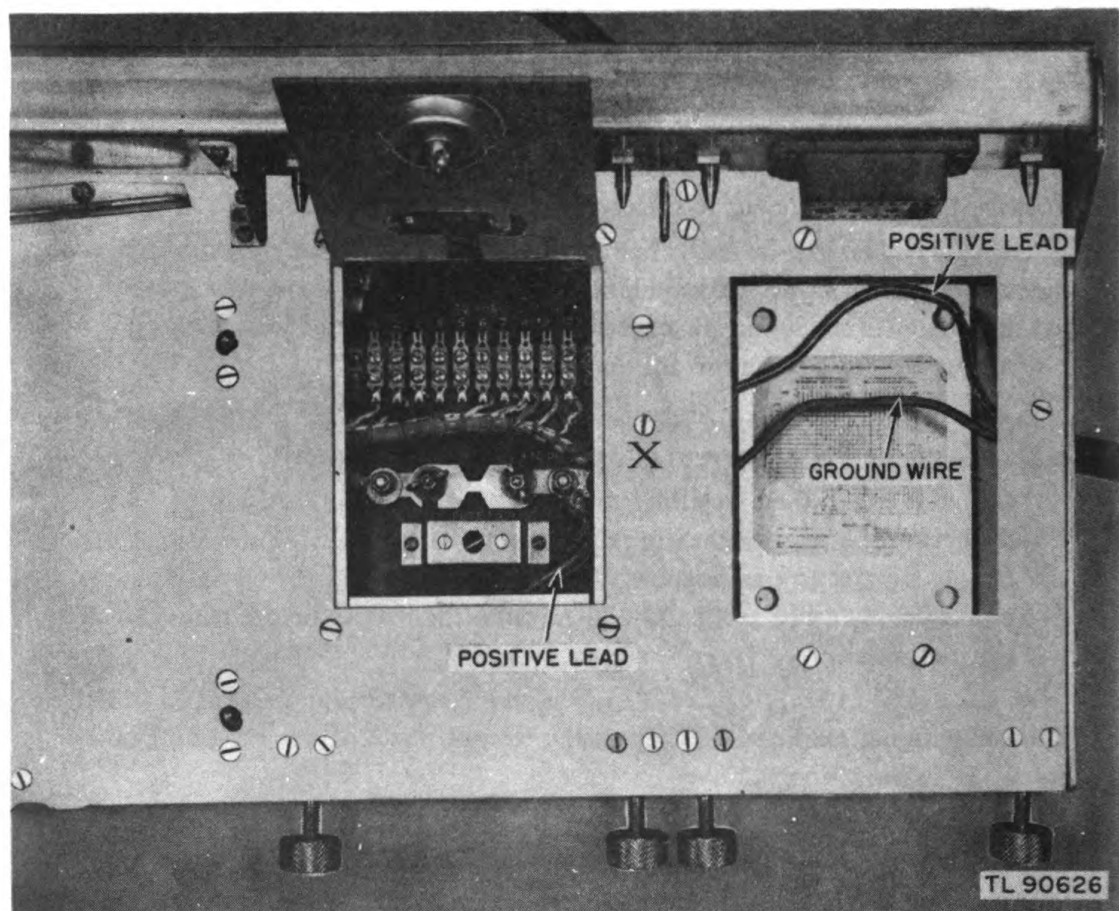

Figure 23. Transmitter base, ground connection.
(2) Take the other end of Cord CD-1151 and ground the black negative lug to any convenient point on the transmitter mounting. The screw connection marked X in figure 23 makes a good point to make the ground connection.
(3) Connect the white positive wire of Cord CD-1151 to the positive battery terminal of Radio Set SCR-508-( $\&$ ) or SCR-608-( $\&$ ).
**NOTE:** The easiest way to make connections described in subparagraphs (2) and (3) above is to remove the receiver from the radio set mounting, open the door in the mounting and thread the end of Cord CD-1151 through one of the knock-out holes in the side of the mounting base. The positive battery terminal is marked +12 OR 24V, and is the terminal on the right when facing the set.
(4) Loosen and remove the nut on the terminal, install the positive wire lug,
replace, and tighten the nut. Make the ground connection to the screw marked X in figure 23 or any other convenient point on the chassis.